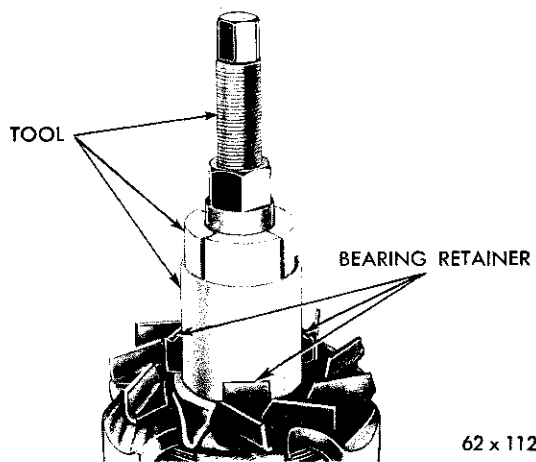

Fig. 27—Removing the Bearing from the Rotor Shaft
- (d) Turning the center screw while holding the outer body of the tool (Fig. 27) will withdraw the bearing from the rotor shaft.
- (11) Remove the D.C. output terminal nuts and washers and remove the terminal screw and inside capacitor.